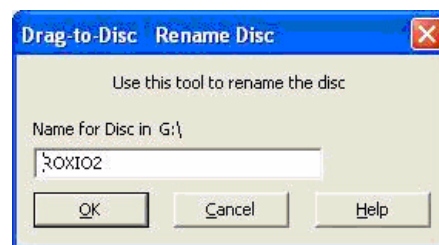

Figure D-2 Rename Disc
2. Right-click the Roxio Drag-to-Disc icon  and select **Rename Disc** from the pop-up menu, as shown on the left, or press **Alt+R** from the keyboard. The Drag-to-Disc Rename Disc dialog is displayed (Figure D-2).